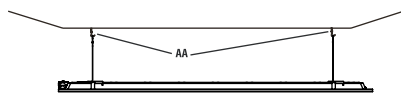

Figure 1
Locate area where light will be suspended and mark 2 holes apart. Pre-drill 2 holes (1/4" dia.) to accommodate 2 expansion hooks (AA) which will be used to support the light. Distance between 2 holes should line up with tabs on the back of the panel light. Once holes are drilled, press hooks (AA) into holes and ensure they are firmly mounted. (See Figure 1)